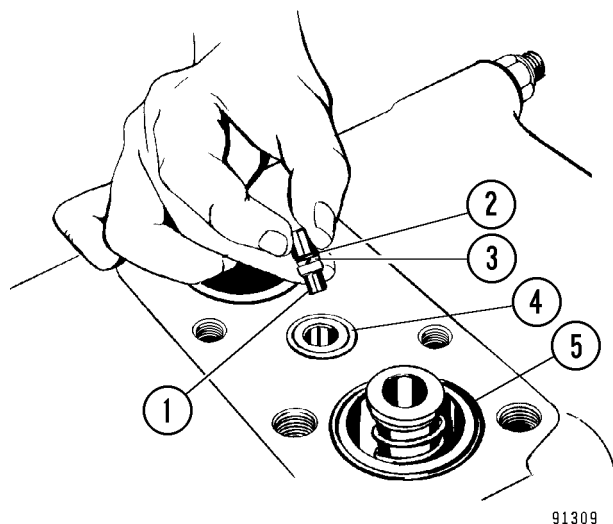
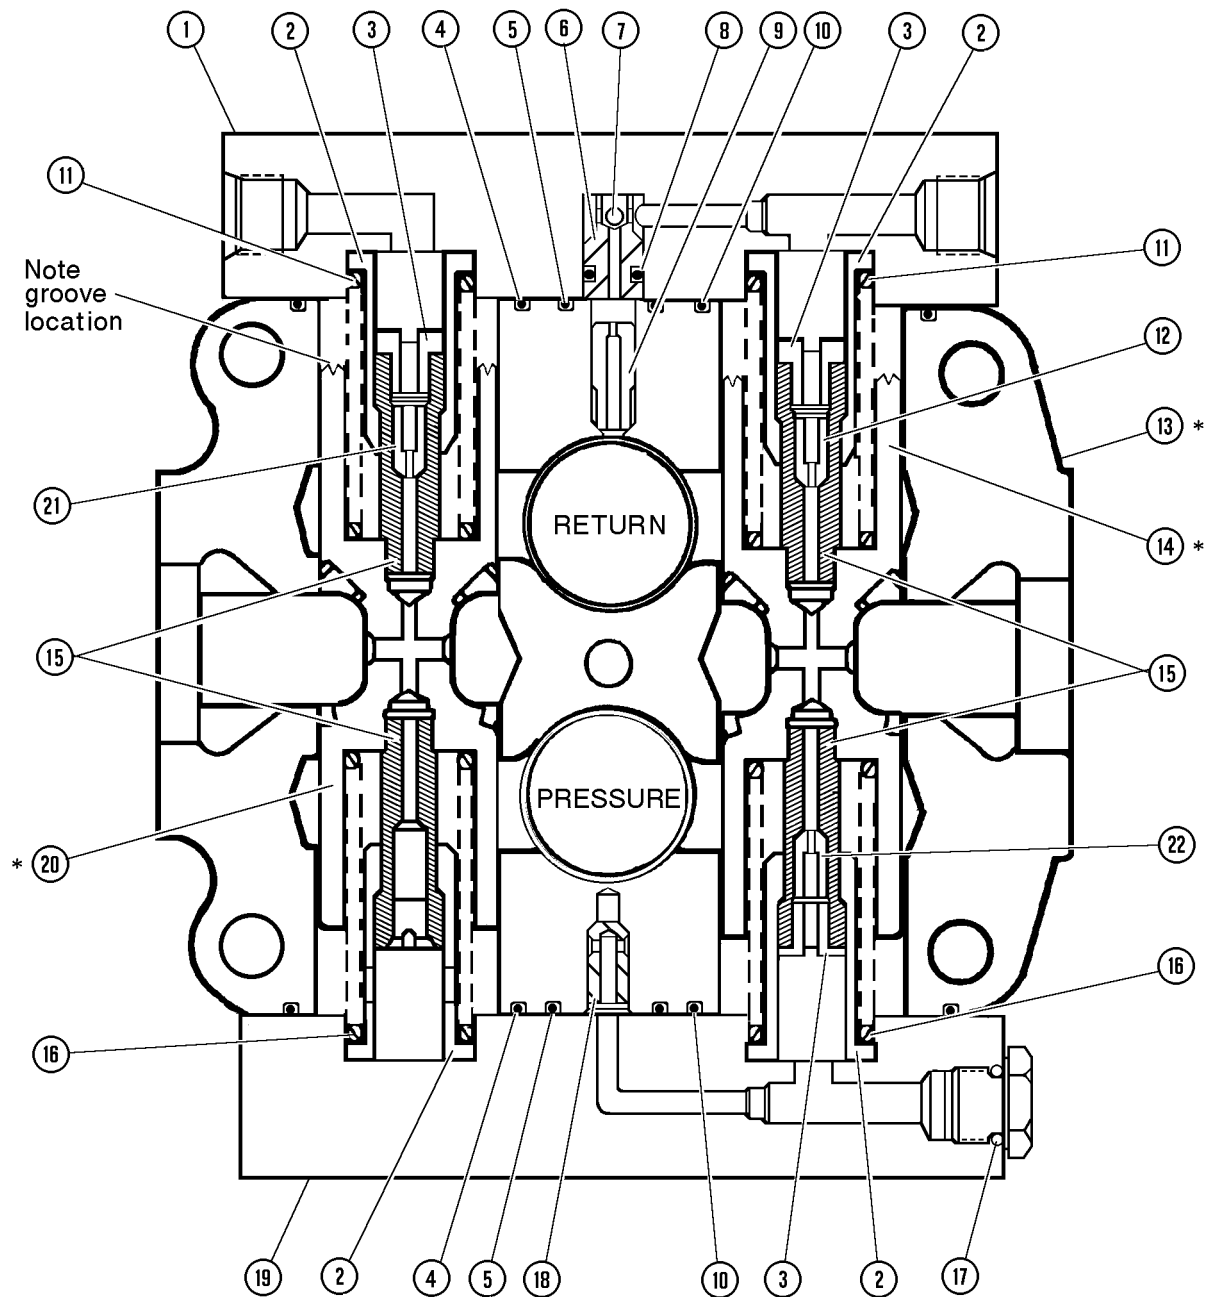
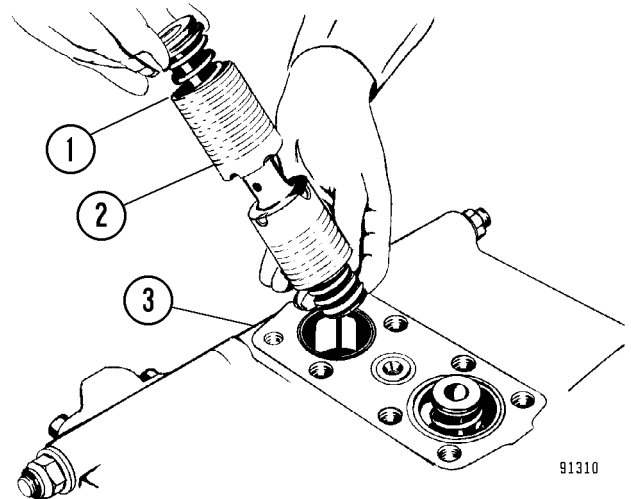

FIGURE 8-8. RESTRICTOR POPPET REMOVAL
FIGURE 8-9. WORK PORTS SPOOL SECTION ASSEMBLY
FIGURE 8-10. SPOOL INSTALLATION
2. Remove capscrews and lift spool section cover (1, Figure 8-9) from the housing.
4. Remove and discard O-rings (4) and (5, Figure 8-8).
5. Remove restrictor poppet (1). Remove and discard O-ring (2) and backup ring (3), if used. Note the position of the restrictor when removed to ensure correct reassembly.
6. Remove spool assembly (20, Figure 8-9). Note the color of the lower spring (blue) to ensure proper location during reassembly. Also note the "V" groove on the top end of the spool.
7. Remove plug (3) from the end of the spool. Remove spring seat (2) and spring (11). Remove poppet (21) and spool end (15).
NOTE: Pay special attention to poppets (12), (21) and (22, Figure 8-9) during removal to ensure proper location during reassembly. Poppets may be identified with a colored dot (red, green or white). If the poppets are not color coded, use the table below and the specified drill bit to measure the orifice diameter for proper identification.
1. Lubricate O-rings (4), (5) and (10, Figure 8-9) with clean hydraulic oil. Install the O-rings in the spool housing. Install poppet (18). Install cover (19) and secure it in place with capscrews. Tighten the capscrews to **81 N·m (60 ft lb)**.
2. Install spring (11) in spool (20). Install spring seat (2). Apply Loctite to the threads of spool end (15). Install the spool end and tighten it to **34 N·m (25 ft lb)**. Install green poppet (21). Apply Dri-loc #204 to the threads of plug (3). Install and tighten the plug to **20 N·m (15 ft lb)**.
3. Repeat Step 2 for the opposite end of spool (20) to install the spring, spring seat, and spool end. Ensure that spring (16) is blue. A poppet and plug are not installed in the lower end.
4. Lubricate the spool assembly and carefully install it in the spool housing as shown in Figure 8-10. Make sure that "V" groove (1) in spool assembly (2) is positioned **up** as noted.
5. Install spring (11, Figure 8-9) in the top (grooved) end of remaining spool (14). Install spring seat (2). Apply Loctite to the threads of spool end (15). Install spool end and tighten to **34 N·m (25 ft lb)**. Install red poppet (12). Apply Dri-loc #204 to the threads of plug (3). Install and tighten the plug to **20 N·m (15 ft lb)**.
6. Repeat Step 5 for the bottom end of spool (14). Install spring (16) which is blue in color, spring seat (2) and spool end (15). Apply Loctite to spool end threads. Install spool end (15) and tighten to **34 N·m (25 ft lb)**. Install white poppet (22). Apply Dri-loc #204 to the threads of plug (3). Install and tighten the plug to **20 N·m (15 ft lb)**.
7. Lubricate the assembled spool and install it in the spool housing as shown in Figure 8-10. Make sure that "V" groove (1) in spool assembly (2) is positioned **up** as noted.
NOTE: Spools (14) and (20, Figure 8-9) are physically interchangeable. Ensure that spool (14) is installed toward the base port of the spool housing.
8. If used, install O-ring (2, Figure 8-8) and backup ring (3) on restrictor poppet (1). Install the poppet in the spool housing as shown in Figure 8-9.
9. Install new O-rings (4), (5) and (10).
10. Install a new O-ring (and backup ring if used) on poppet (6, Figure 8-9). Make sure that small steel ball (7) is installed in the poppet. Install the poppet in cover (1).
11. With new O-rings (4, 5 and 10) installed, position cover (1) over the spool housing. Install and tighten the capscrews to **81 N·m (60 ft lb)**.